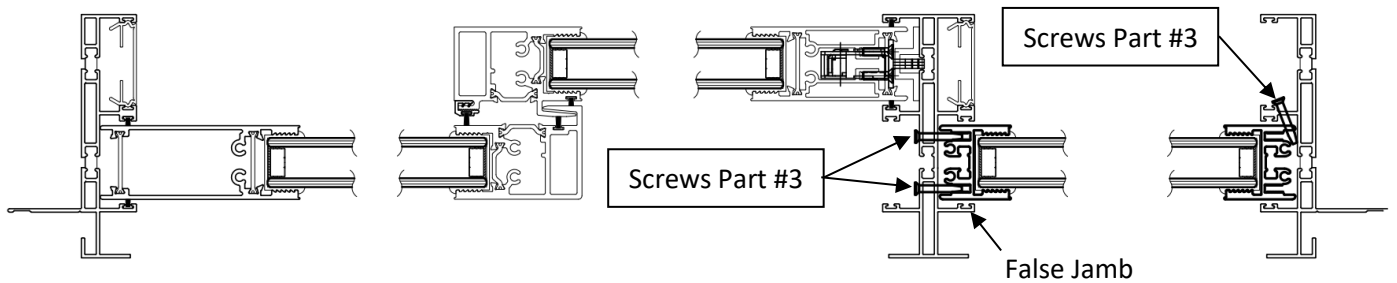

Figure 20
- 1) After the operable panel is installed, install the left fixed panel (for OXO Left) or right fixed panel (for OXO right). Remove trim cap (Part #9) and use the pre-drilled holes in the false jamb (2 on bottom, 2 on top) to fasten false jamb to the fixed panel. Fasten the fixed panel to the outer jamb using screws (Part #3), 24" from top and 24" from bottom of frame as shown in figure 20. Fill any gaps between false jamb and frame with silicone to make watertight.